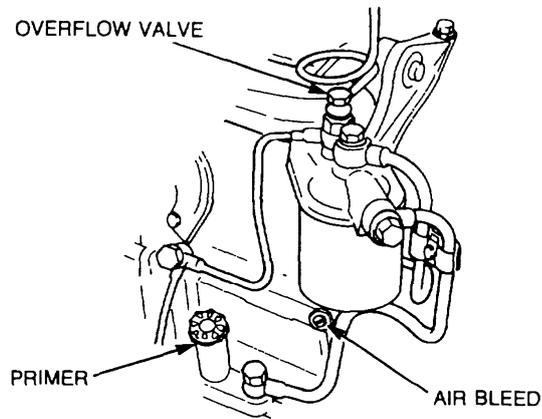

Figure 49 Bleeding the Fuel System
- b. Loosen the overflow valve on the fuel filter adaptor and continue operating the primer until a solid stream of fuel flows from the valve (Figure 49)